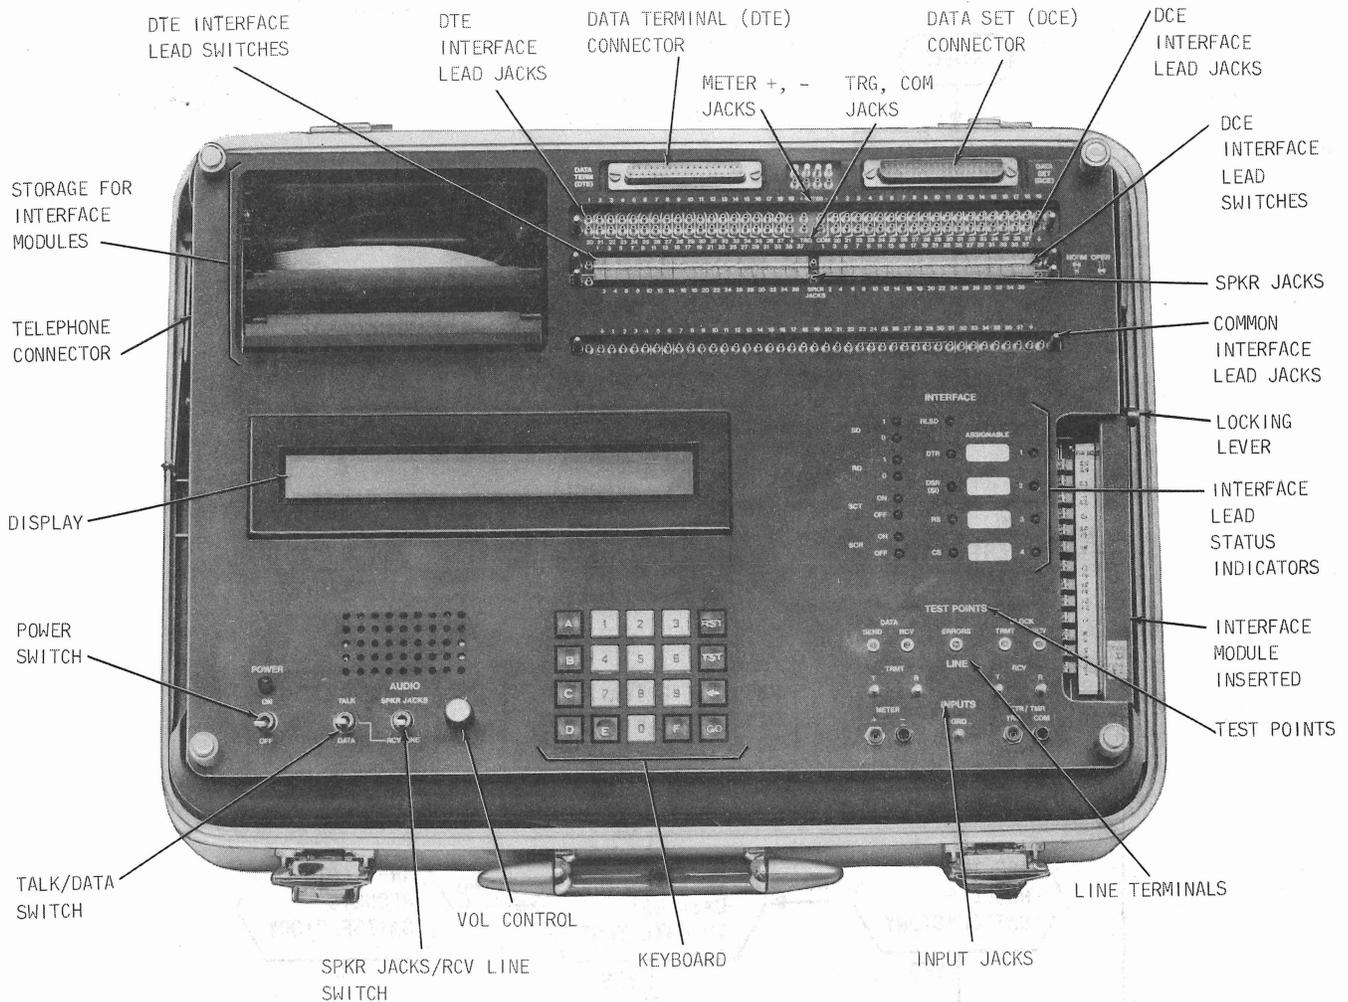

Fig. 1—921A Data Test Set—Front Panel
1.05 The 921A DTS (Fig. 1) is a portable, general purpose data test set that provides the